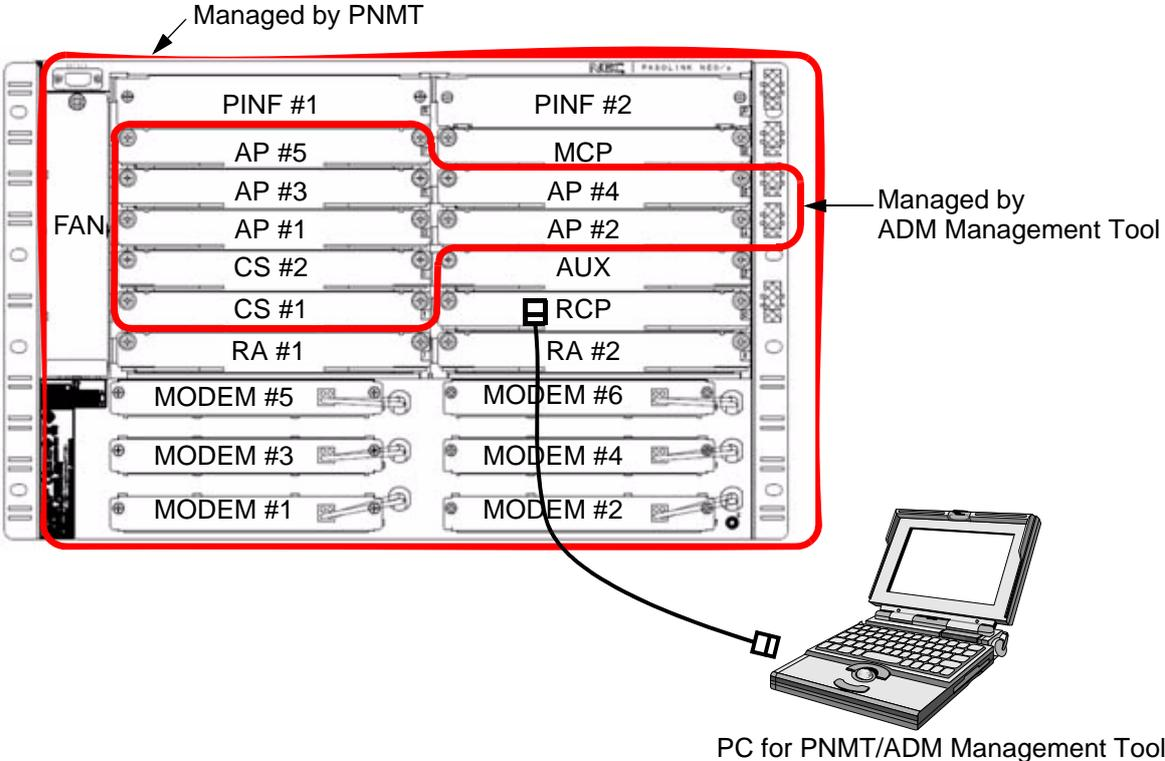

Fig. 4-1-2 ADM Management Tool
- 1 To login to local NE, click on any card in the baseband portion of the NEO/a block diagram on PNMT main window. The relationship between the PNMT and ADM Management Tool is shown in *Fig. 4-1-2*.